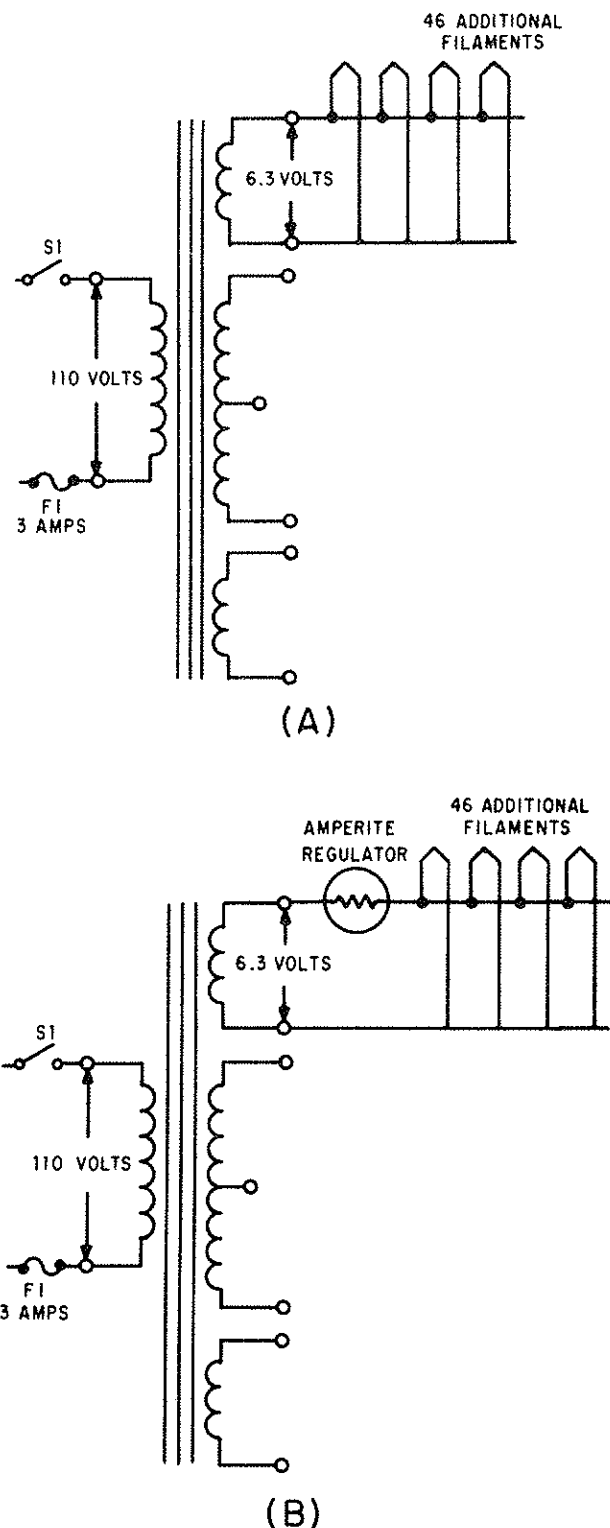

Figure 3-49.—Amperite regulator.
There are some cases where current must be regulated or kept at a relatively constant value. The best example of this is the filament supply of a power transformer located in a power supply that is designed to supply filament power to many tubes. You can see this in view (A) of figure 3-49, which is a portion of a power supply designed to supply 50 vacuum tubes with both plate and filament voltages. Under normal conditions, circuit current will not exceed 2.5 amperes. For this reason, the power supply has been fused at 3 amperes. Because you are only interested in current regulation at this time, only the portion of the power supply that deals with current regulation is shown; namely, the power transformer and four of the (fifty) parallel connected vacuum-tube filaments. At operating temperatures, the resistance of each filament is 1 kilohm. Because the filaments are connected in parallel, the total filament resistance at operating temperature is 20 ohms. Ohm's law
View (B) of figure 3-49 shows the amperite regulator connected in series with the filaments of the load. When the power supply is first energized, the iron wire of the amperite gets hot quickly and presents a large resistance connected in series with the 2 ohms of filament resistance. As a result, most of the voltage is dropped across the amperite. Because of the large resistance of the amperite regulator, current in the circuit is held to an acceptable level in accordance with Ohm's law: